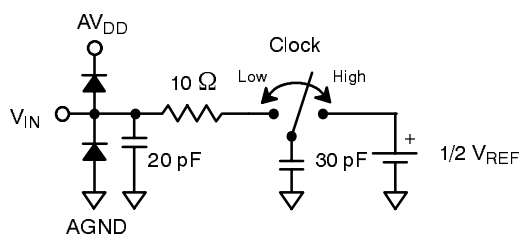

Figure 5. Analog Input Equivalent Circuit
- ⁴ See V_{IN} input equivalent circuit (Figure 5.). Switched capacitor analog input requires driver with low output resistance.